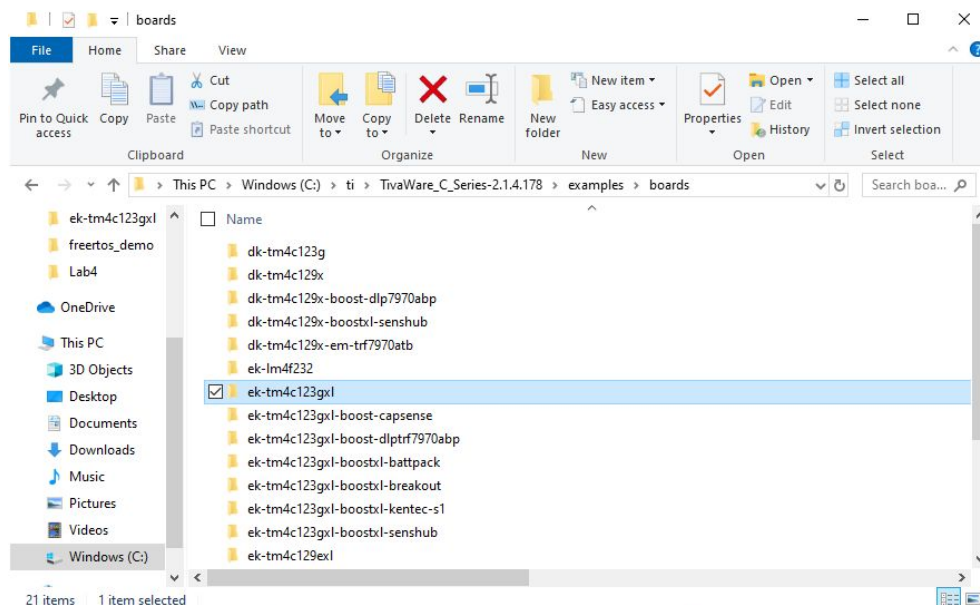

Figure 4: The ek-tm4c123gxl directory
2. Go to the installation directory, then go to examples -> boards -> ek-tm4c123gxl. **(The name of the folder suggests a different board, but that is okay.)** Here you'll find a folder called freertos_demo. This is the folder you'll be working with in this Lab. Figure 4 below shows this directory.